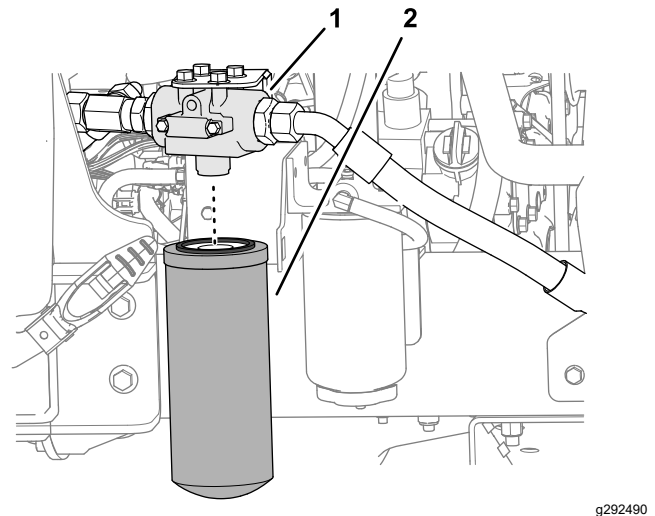

Figure 74
3. At the left side of the machine, clean the area around the filter head and place a drain pan under the filter (Figure 74).
4. Remove the return filter (Figure 74).
6. Assemble the filter to the filter head, and tighten the filter by hand until the gasket contacts the mounting surface, then rotate it an additional 1/2 turn (Figure 74).